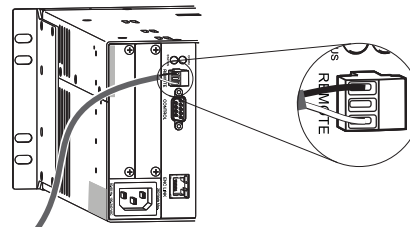

FIG. 9 Insert wires into Remote (XNNet) connector
3. Insert the XNNet link cable wires according to FIG. 9 (either wire can be inserted in either outside slot).